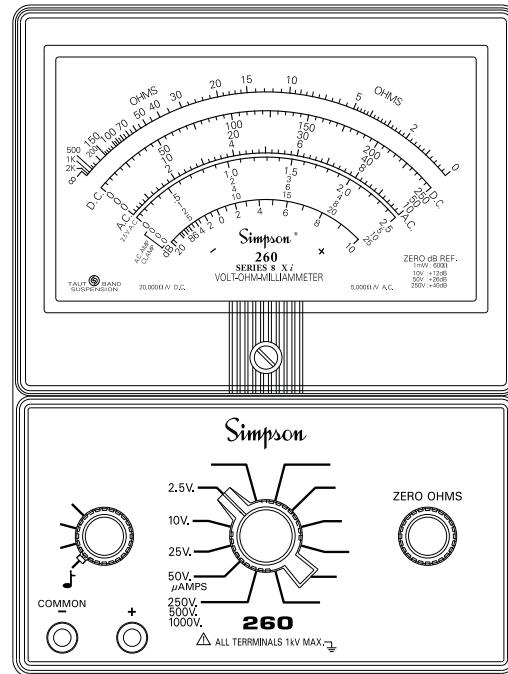

Figure 4-13. Jacks and Switch Positions for Continuity Tests
- a. Set the FUNCTION switch to the “ λ .” Insert the black test lead into the COMMON (-) and the red test lead into the (+) jacks, (Figure 4-13).